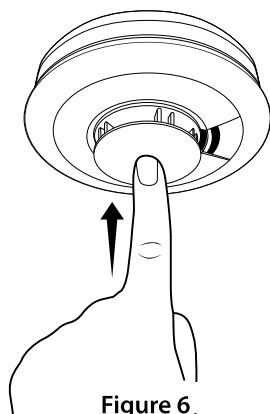

Figure 6
- 7 Press the test button on each smoke alarm to ensure that the smoke alarm unit works, see **Figure 6**.
- Press and hold the test/silence button until the alarm sounds and the alarm LED blinks in red, see **Figure 6**. The alarm will stop sounding shortly after the button is released.